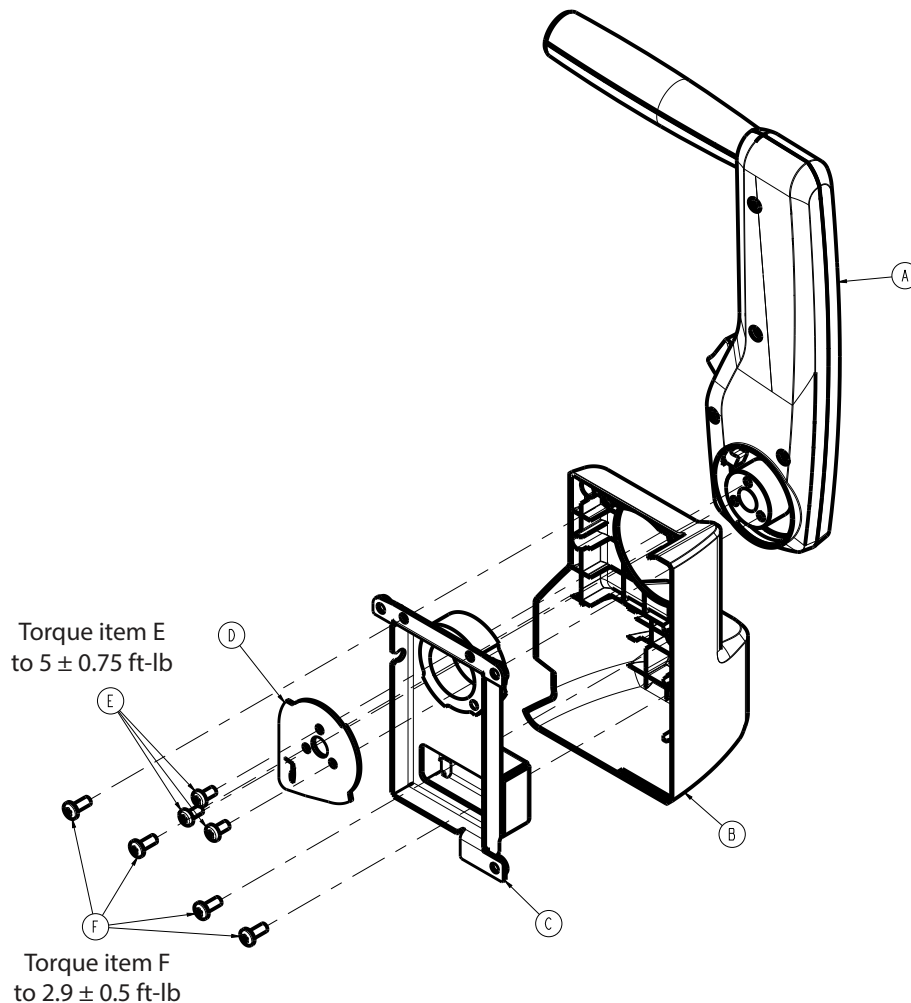

Figure 75 – Removing the Zoom push handle
9. Using a T30 Torx driver, remove the three screws (E) that secure the **Zoom** push handle (A) to the bumper (B) and remove the pivot plate (D) (Figure 75). Save the pivot plate and screws.